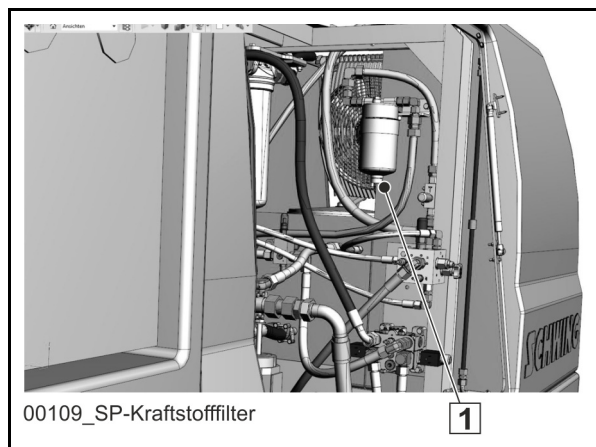

Fig. 37
Any accumulated water must be drained daily from the settling vessel on the fuel prefilter (1) (**Fig. 37**) according to manufacturer's instructions.